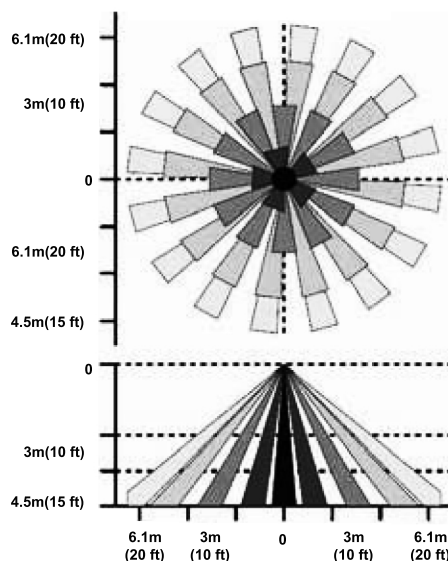

Fig 1 : Sensor Coverage Area
- 10 to 20ft (3 to 6.10 m) radial coverage overlaps area lit by a typical fixture (refer to Fig 1:Sensor Coverage Area)